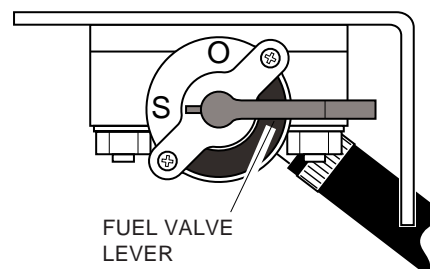

Figure 22 - Fuel Valve Lever In "S" Position
5. Turn fuel valve lever off. Do this by moving valve lever to the "S" position (see Figure 22).